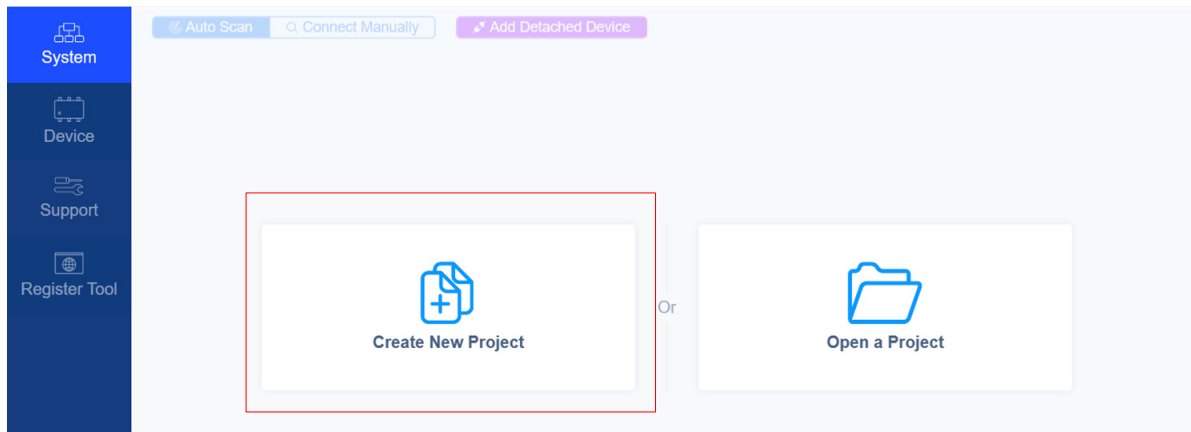

Figure 2: Creating a New Project in Virtual Bench Pro 4.0
3. Open Virtual Bench Pro 4.0, click create new project to start a new connection (see Figure 2). ⁽⁴⁾